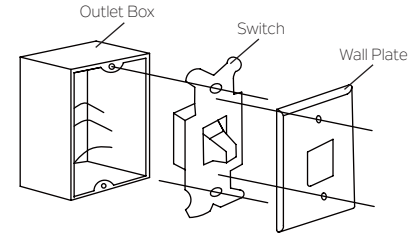

Fig. 15
**Step 1.** Remove the existing wall plate and switch from the wall outlet box. Disconnect wires from existing switch. (Fig. 15)